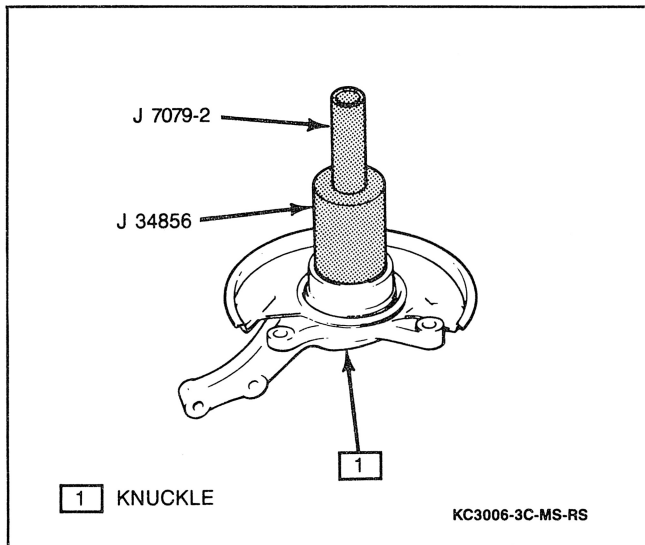

Figure 8 Outer Race Installation
1. Outside race into knuckle using a J 34856 outer race remover and installer with a J 7079-2 driver handle (Figure 8).